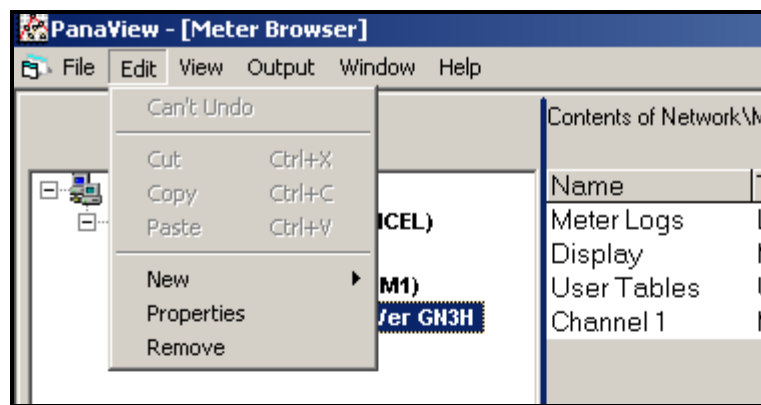

Figure 24: The *Properties* Option in the *Edit* Menu
2. Open the *"Edit"* menu and select the *"Properties"* option, as shown in Figure 24.